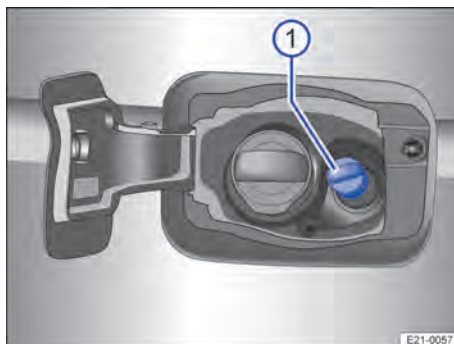

Fig. 165 Behind the tank flap: AdBlue filler neck cap.
The AdBlue® filler neck is located behind the tank flap next to the tank filler neck for fuel → Fig. 165 ①.